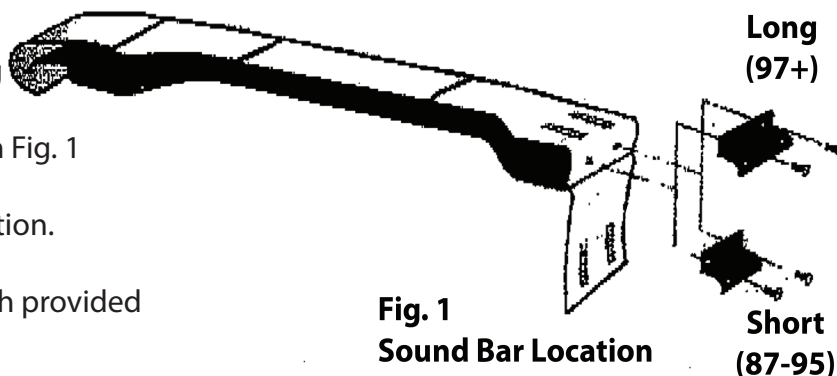

Fig. 1
1. Secure the suitable mounting bracket for your year with the 1/4"-20 x 5/8" screw as shown in Fig. 1